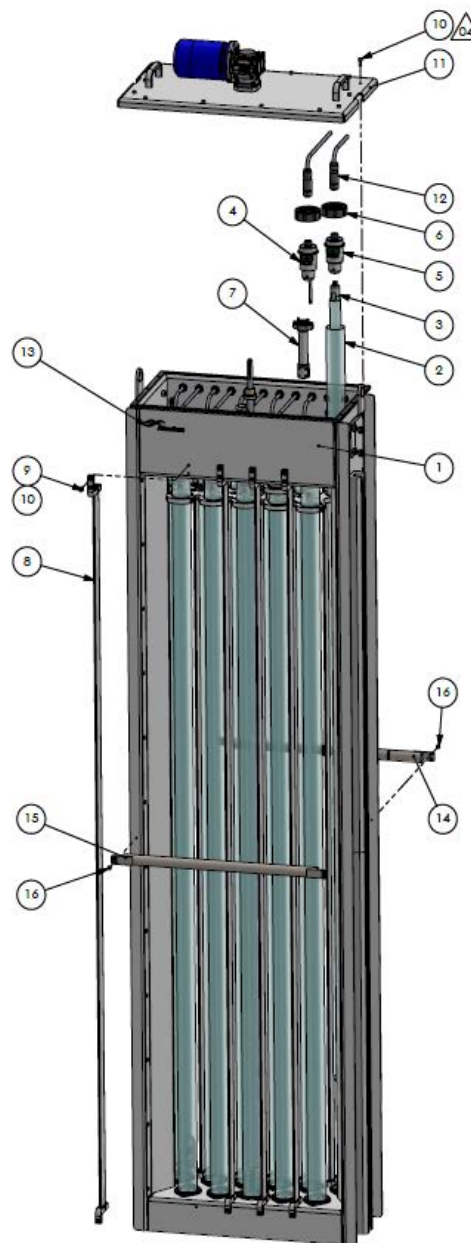

Figure 2-5: OCUVS cassette
- A control cabinet (Figure 2-5 on page 12) monitors the UV output of the system via the sensors and enables automatic control of the power levels of the lamps